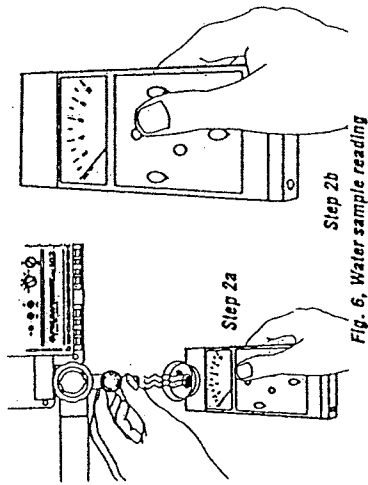

Fig. 6, Water sample reading
2) Take a sample of the boiler water and measure conductivity with calibrated hand held meter. Note reading (See Fig. 6, Steps 2a and 2b).